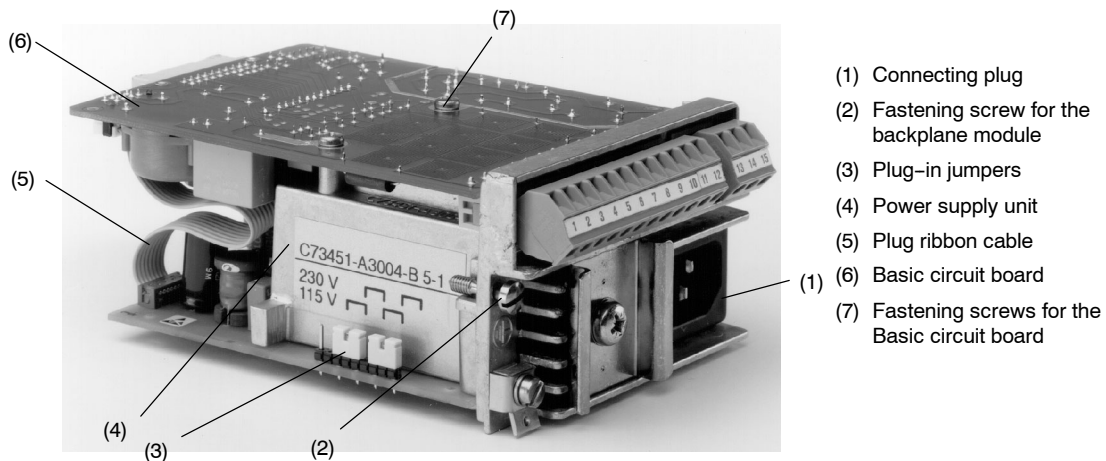

Figure 8-3 Backplane module
- Pull out the ribbon cable plug (see (5) figure 8-3)
- Loosen the fastening screw of the basic circuit board (see (7) figure 8-3).
(Pay attention to correct plugging of jumpers (see (3) figure 8-3))